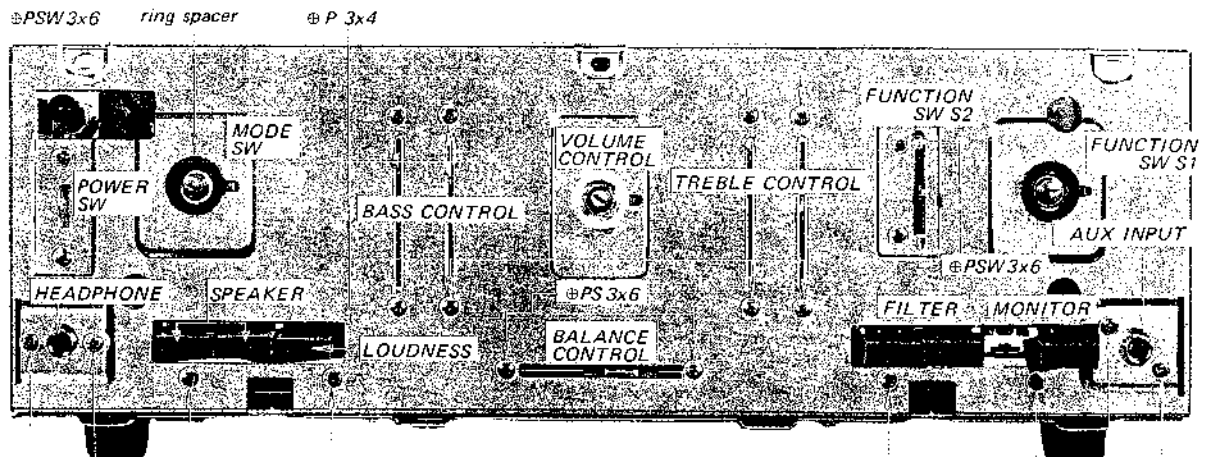

Fig. 2-5 Control and switch replacement
1. Remove the screws (\oplus PSW3x6) securing the switch or control to the front subchassis as shown in Fig. 2-5.
2. Remove the two screws (\emptyset PS3 \times 6) securing the printed circuit board to the front sub-chassis. See Fig. 2-5.
the control to the front subchassis as shown in Fig. 2-5.